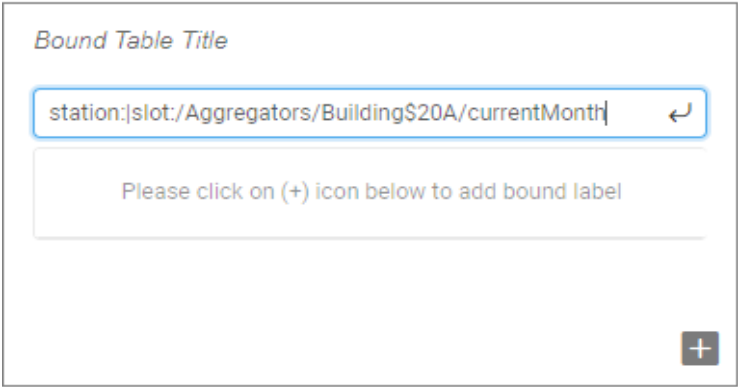

Figure 115 – PUTTING THE SLOT VALUE TO THE INPUT BOX
- Once clicked you can see an input box opened (Figure 115).